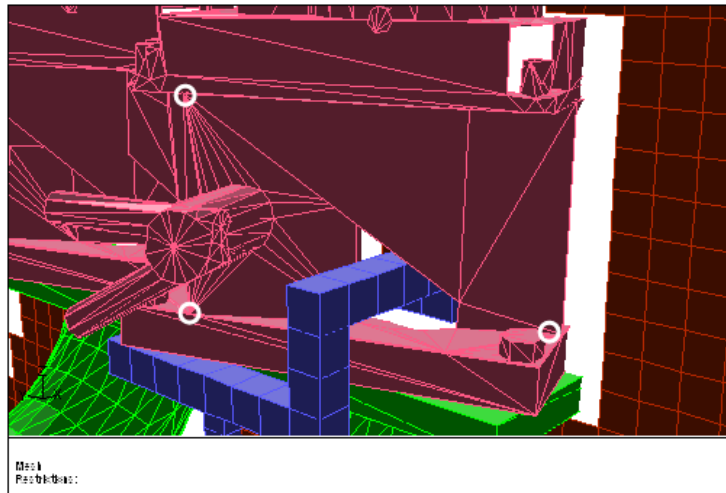

Figure 7.16: Nodes Selected to Close the Hole in the f_v8-airintake Zone
- iv. Zoom in to the hole and select three nodes as shown in Figure 7.16.